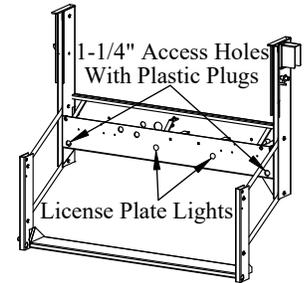
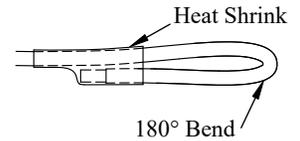

Figure 12: Front access hole location.
Figure 13: 180° bend on wire.
6. Remove plastic plugs from the access holes in the front of the liftgate (Figure 12).
7. Pull two (2) 3-prong light plug from inside the mainframe, through each 1-1/4" access hole. Make sure that the yellow wire is on the driver's side and the green wire is on the passenger's side.
- Bend one of the white wires to a 180° bend. Wrap the exposed wire end with heat shrink (Figure 13).
X Indicates wire is sealed away and not used (Figure 13).